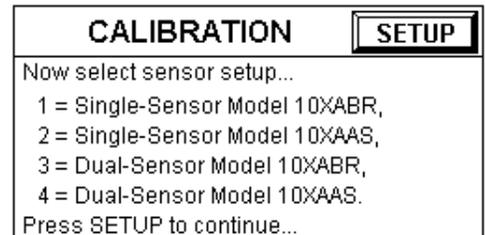

Figure ZD.3-11: Sensor Type Screen
- The *Calibration Screen* for sensor type is displayed {Figure ZD.3-11}.